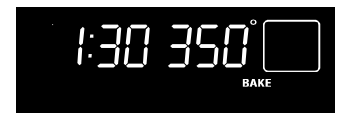

Fig. 2
1. After the oven has already been set to bake at 350°F and the oven set temperature needs to be changed to 425°F, press  (See Fig. 2).